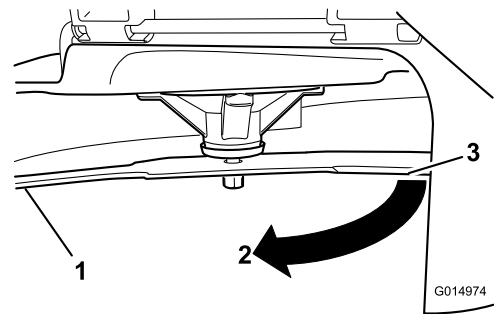

Figure 94
3. Measured distance between blade and the surface (A)
4. Rotate the same blade 180 degrees so that the opposing cutting edge is now in the same position (Figure 94).